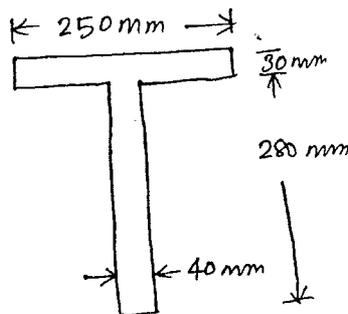

Fig. Q. 14 (b)
- (b) A beam of 'T' section shown in Fig. Q. 14 (b) is subjected to a shear force 20 kN. Find the maximum shear stress intensity and draw the shear stress distribution diagram.